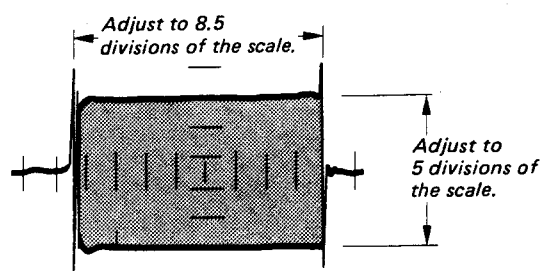

Fig. 5-107.
7. Turn the voltage knob and time axis knob on the oscilloscope properly so that the output waveform is 5 and 8.5 divisions of the scale in the vertical and horizontal directions. (See Fig. 5-107.)
12. Turn the voltage knob and time axis knob on the oscilloscope properly so that the output waveform is 5 and 8.5 divisions of the scale in the vertical and horizontal directions as same as step 7. (See Fig. 5-107.)